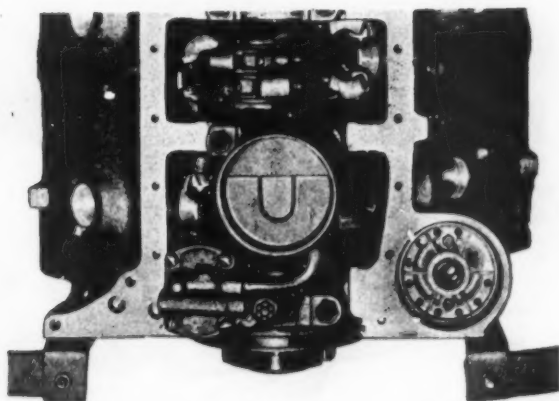

Fig. 3 — Chevrolet oil pump installed.
7.—Install oil splash shield on rear bearing cap if removed; then install pump to rear bearing cap bolt and tighten to 45 to 50 ft. lbs. (Fig. 3).